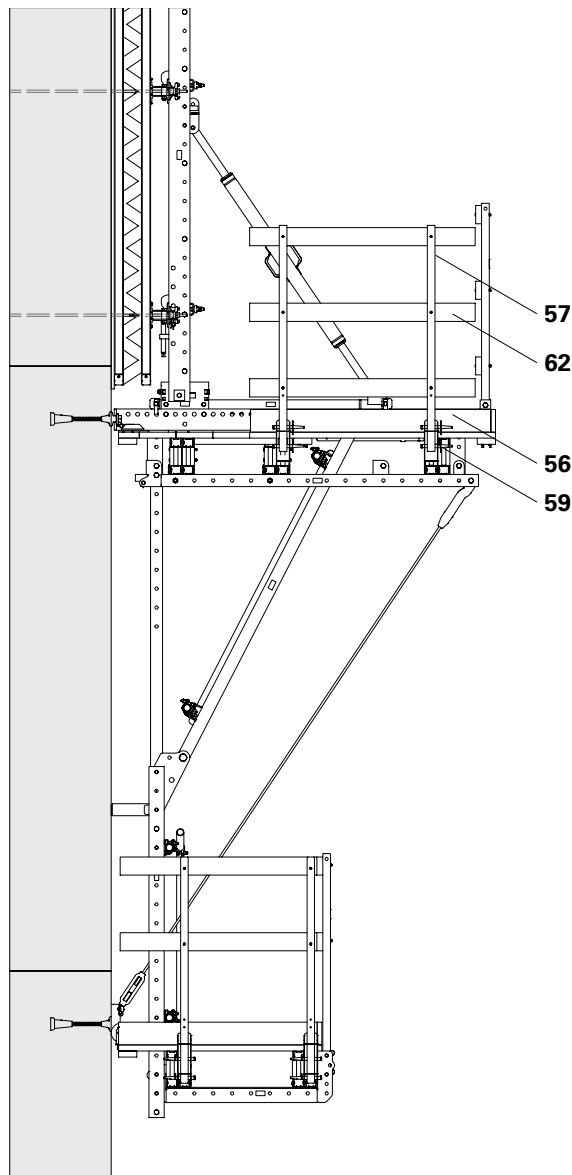

Fig. C2.02
1. Secure the Guardrail Post Holder Multi (59) to the Platform Beam (36).
2. Insert Guardrail Post SCS 150 (57) and securely fix in position.
3. Install planks (62) as guardrail boards.
4. Mount toe boards (56) to the planking using angle connectors.
- (Fig. C2.02)